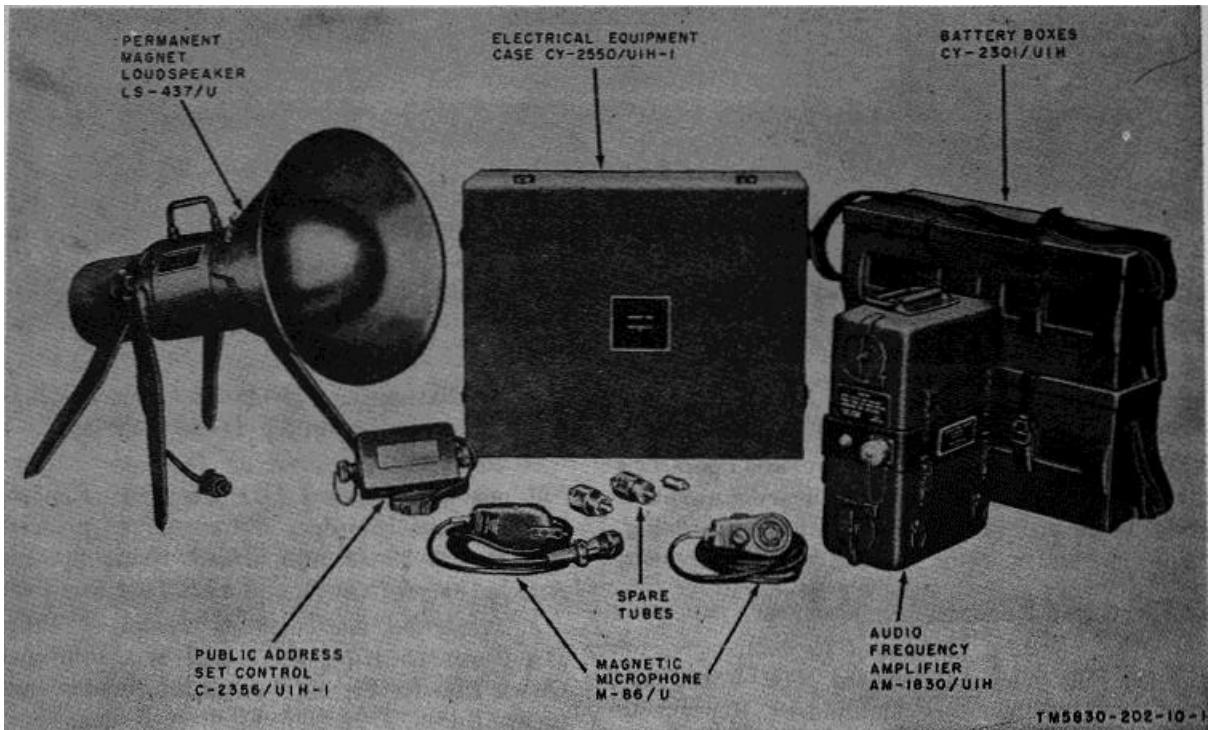
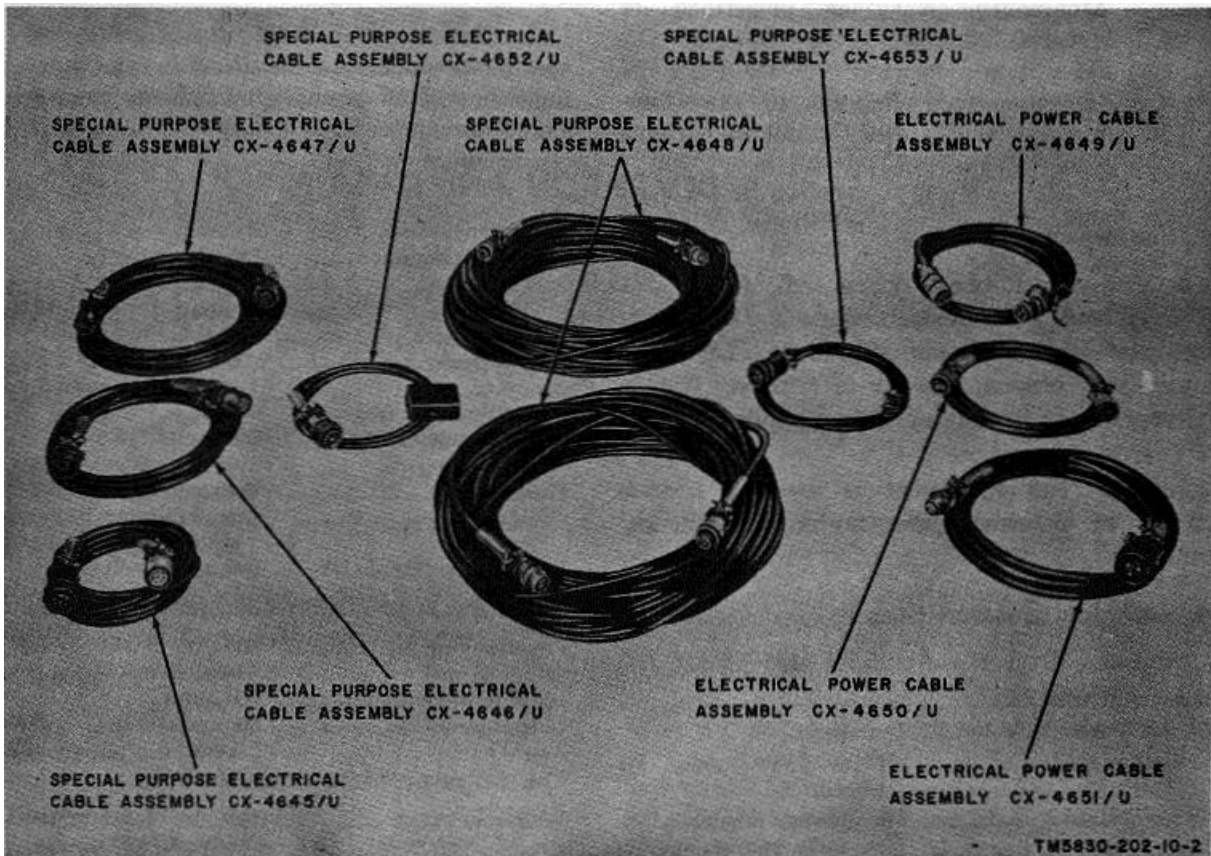

Figure 1. Public Address Set AN/UIH-1, less cables.
Figure 2. Public Address Set AN/UIH-1, cables.
*a. Purpose.* Public Address Set AN/UIH-1 (figs. 1 and 2) provides mobile or stationary facilities for audio amplification. The audio inputs may originate locally or remotely from a microphone or reproducer and be applied directly or over telephone lines.
**5. Table of Components (figs. 1 and 2)**
The components of the public address set, including the spare parts, are shown in figure 1, and the interconnecting cables are shown in figure 2. The spare parts and the interconnecting cables are stored in the accessory case.
*d. Battery Box* (fig. 1). Transparent windows on the side of the battery box permit inspection of the level of the electrolyte and the charge of the batteries without removing the batteries. During operation, each battery box contains seven storage cells BB-241/U (not supplied with the equipment) that must be installed by second echelon personnel.
*f. Cables* (fig. 2). Nine cables are provided for interconnection of the equipment and for power connection to either the battery boxes or to a vehicular battery. By using the various extension cables the audio amplifier can be located approximately 50 feet from the microphone and 250 feet from the loudspeaker.
*g. Accessory Case* (fig. 1). Handles are secured to the sides of the accessory case for convenience in carrying the case.